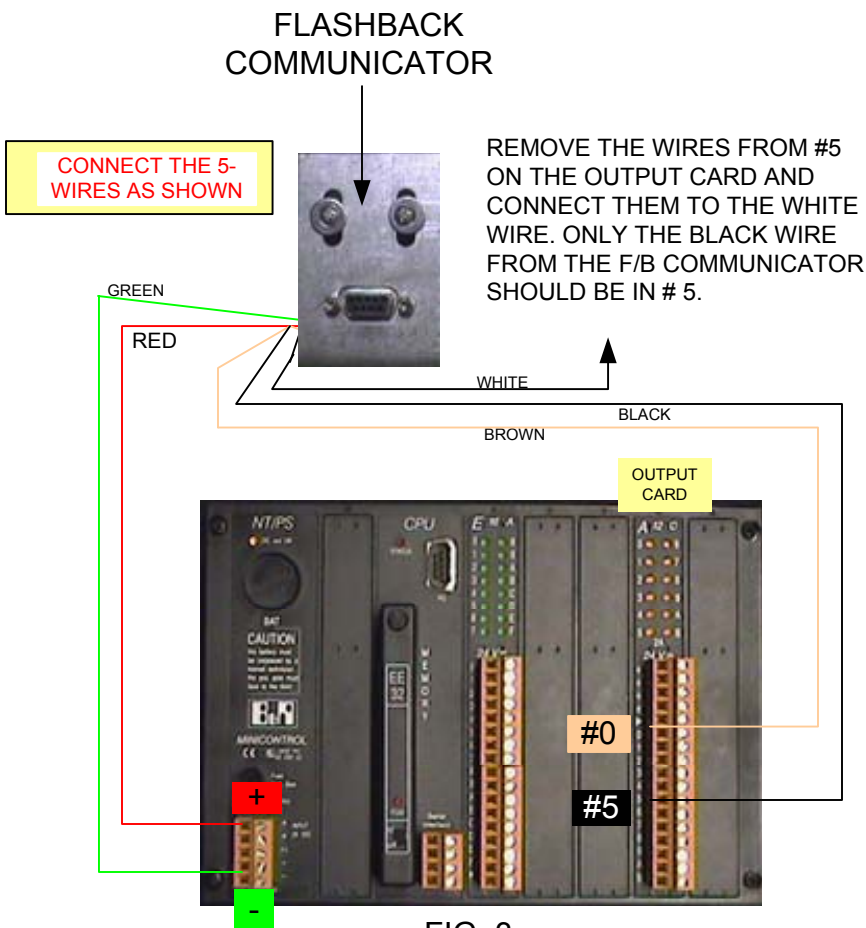
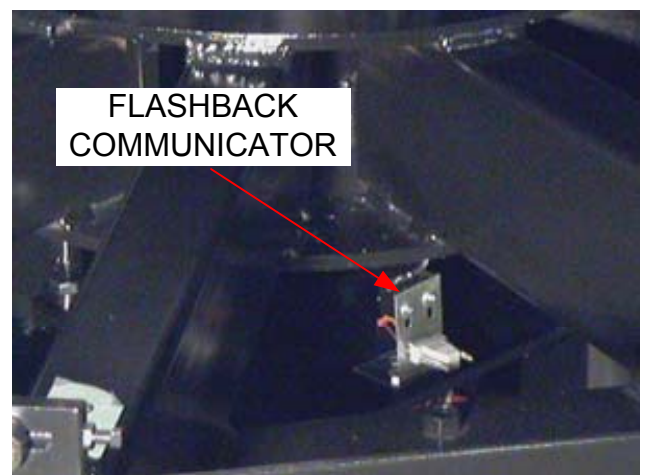

FIG. 3
FIG. 4
3. MOST PRESSES HAVE ALREADY GOT A FLASHBACK COMMUNICATOR SWITCH INSTALLED IN THEM. (FIG. 4) IF YOU DO NOT HAVE A COMMUNICATOR SWITCH SEE THE WIRE DIAGRAM TO WIRE ONE TO THE PRESS. (FIG. 3)